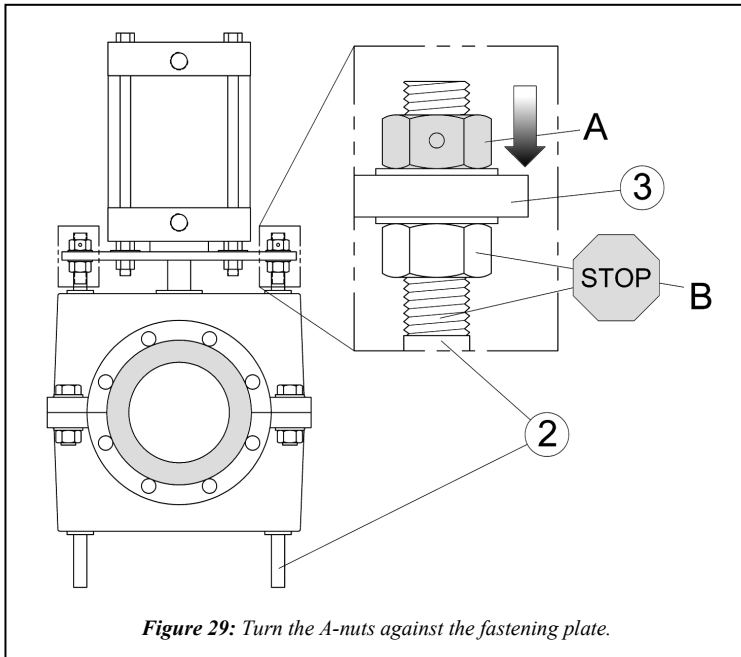

Figure 29: Turn the A-nuts against the fastening plate.
STEP 6: Actuate the RV Valve open and then turn the A-nuts against the fastening plate ③ (Fig. 29). DO NOT allow the B-nuts to turn along the pull bar ② during this step!